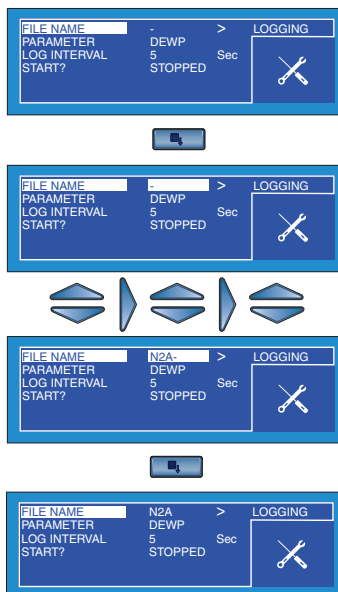

Figure 2.9 - Set-up logging menu
2.6.2 Logging (Figure 2.9)
Highlight LOGGING from the main menu by using a combination of the ▲ (up) and ▼ (down) scroll keys and press the Enter key. The logging set-up menu, is then displayed, See Figure 2.9.